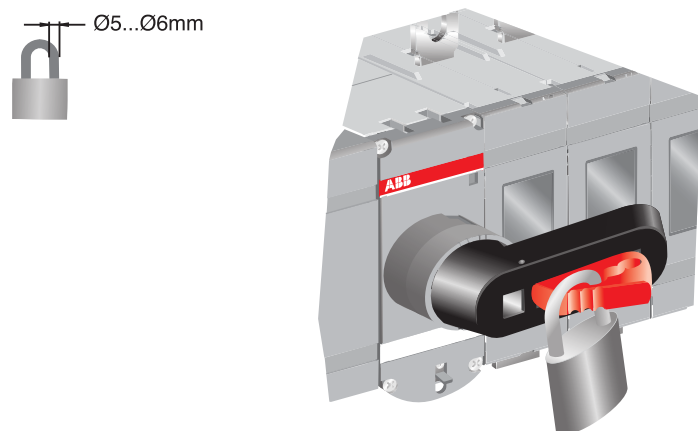

Figure 5-9 Locking the manual operation
2. Pull out the clip from the handle and place the padlock on the handle, see Figure 5-9. (You can place 3 padlocks at most)